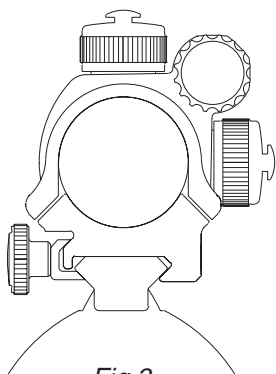
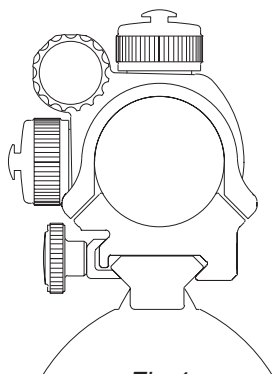

Fig 3
Fig 4
- d) Ensure that the sight is correctly positioned for right or left hand shooting, see fig 3 and 4.
The elevation adjustment screw is located on top of the sight, while the windage screw is located on the right or left side, depending on how the sight has been mounted on the weapon. (Aimpoint sights can be installed to support either right hand (fig 3) or left hand (fig 4) shooters.)